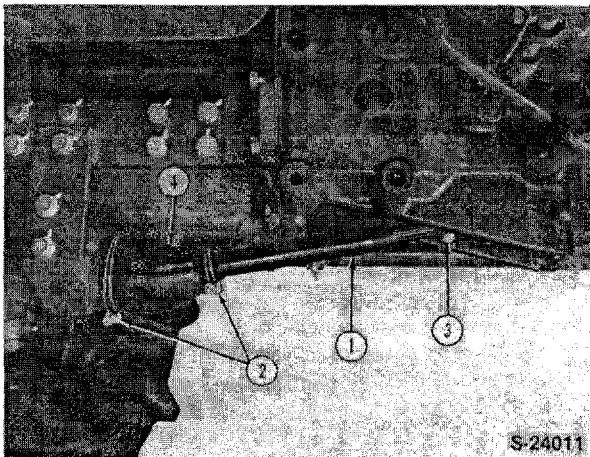

Figure 3
2. Remove the boot clamps (2), Figure 3, and slide the rubber boot rearward to obtain access to the front universal joint.
3. Remove the universal joint retaining bolt from each end of the drive shaft, Figure 3. Disconnect the drive shaft from the transmission end.